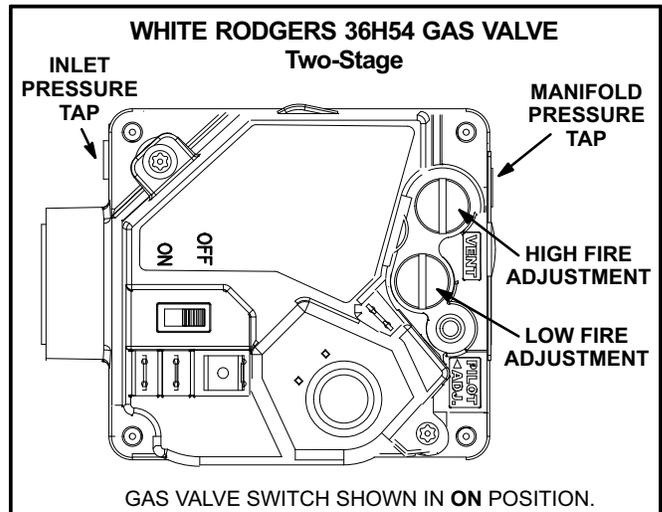
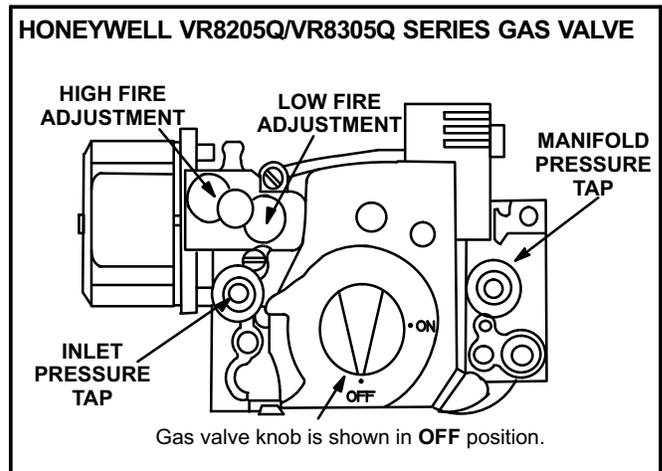

FIGURE 19
FIGURE 20
Gas Valve Operation Honeywell VR8205Q/VR8305Q and White Rodgers 36H54 (figure 19 and 20)
- 5- Turn gas valve switch to **OFF**. See figure 19. On Honeywell VR8305Q gas valves, turn the knob on the gas valve clockwise  to “**OFF**”. Do not force. See figure 20.
- 6- Wait five (5) minutes to clear out any gas. If you then smell gas, **STOP!** Immediately call your gas supplier from a neighbor's phone. Follow the gas supplier's instructions. If you do not smell gas, go to the next step.
- 7- Turn gas valve switch to **ON**. See figure 19. On Honeywell VR8305Q gas valves, turn the knob on the gas valve counterclockwise  to “**ON**”. Do not force. See figure 20.